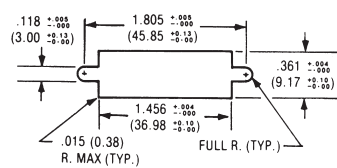

FIGURE 5
1. Front mounting (Figure 5) and rear mounting (Figure 6) accommodates #4-40 screws.